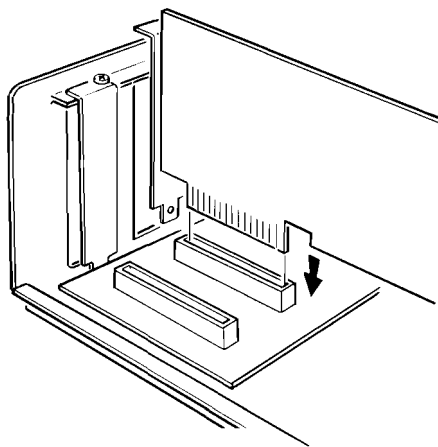

Figure 2.14. IBM PC Cabinet
- The new Z-329 Video Card may be installed in any unused expansion slot. Select any available slot (Figure 2.14).